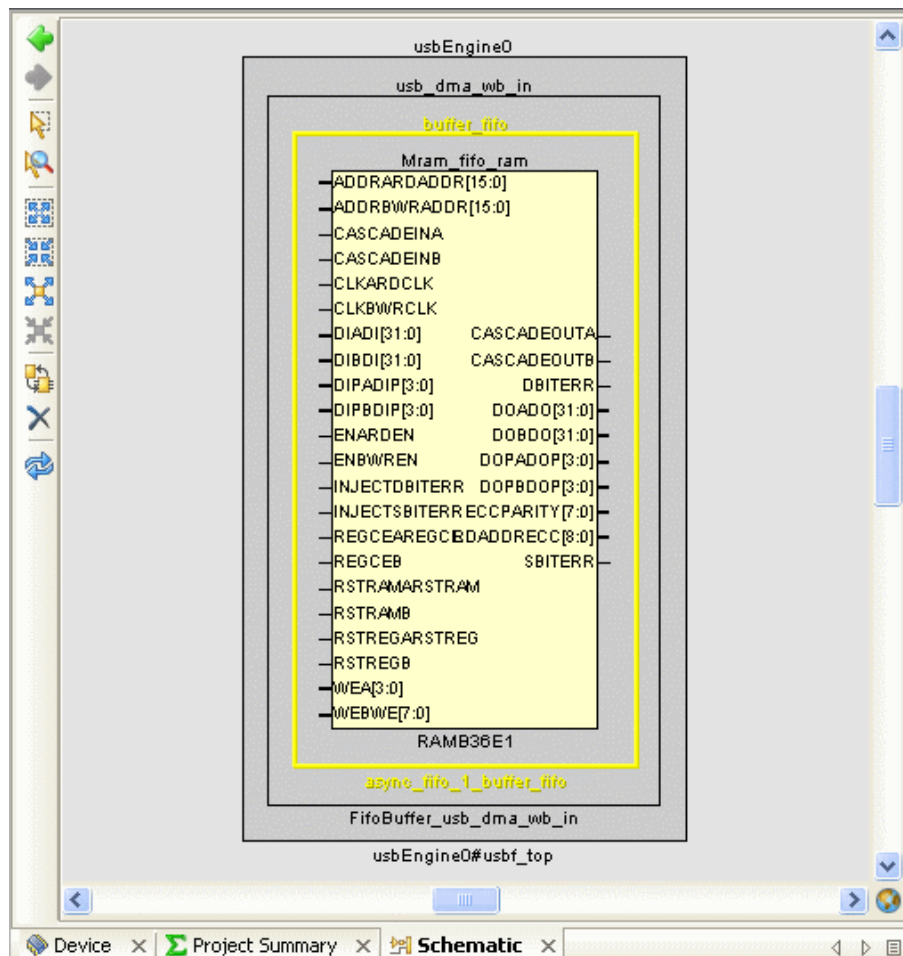

Figure 30: Critical Path Source
- 7-2-6.** Click the Collapse Outside button  (Figure 30).